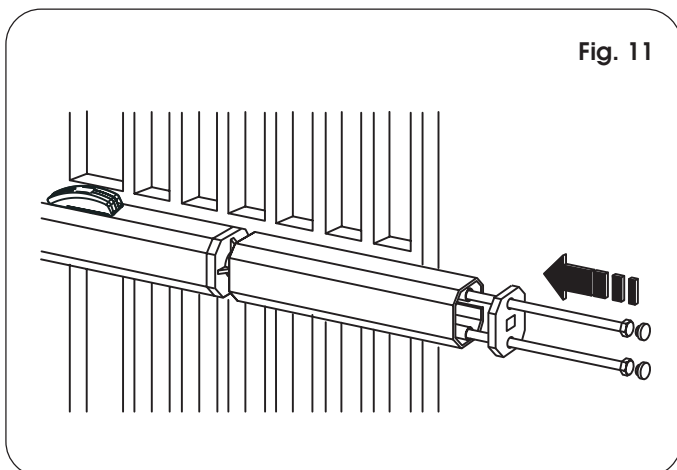

Fig. 11
- 12) Prepare the protective housing and fit it on the operator as shown in Fig. 11.